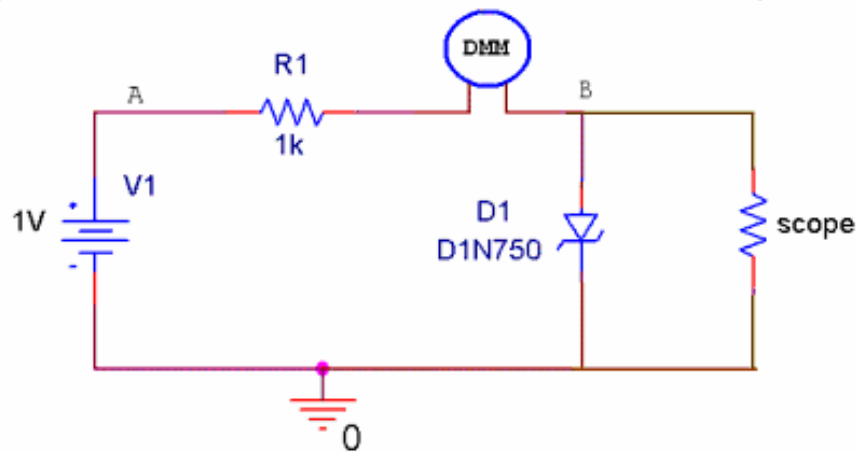

Figure D-4
- Assemble the circuit shown in figure D-4 on your protoboard. The Zener diode looks like the regular diode, except it should have “75” written on it. The DMM (which will be used to measure current in series) is shown in the circuit below. Also connect the scope as shown. You will need it to measure the voltage across the diode.